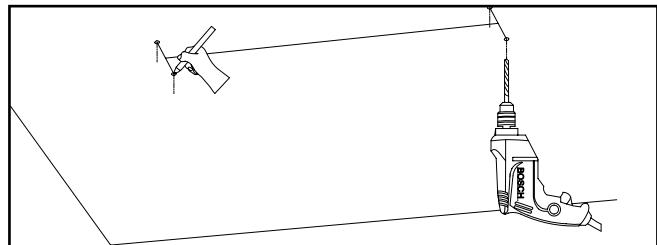

Figure 10.
4. Hang aircraft cable assembly with appropriate anchors. (Anchors not included). See Figures 10 through 14.